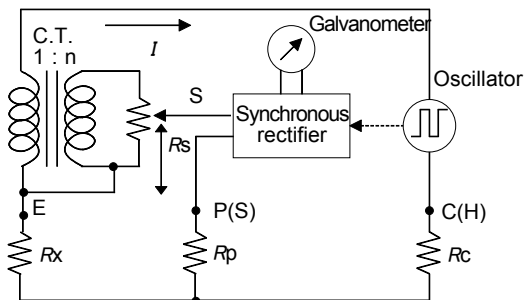

Figure 1 Measurement Principle (3-pole method)
Figure 1 shows the basic circuit principle for earthing resistance measurement. The measuring current  $I$ , driven by the oscillating voltage of the oscillator, flows through the loop formed as follows: oscillator  $R_c$   $R_x$  C.T. If the galvanometer is balanced, the voltage between the measurement terminals E - P(S) is taken as  $E_x$ , and the resistance between the measurement terminal E and the slider S of the variable resistor is taken as  $R_s$ . The voltage drop at the variable resistor is  $E_s$ .